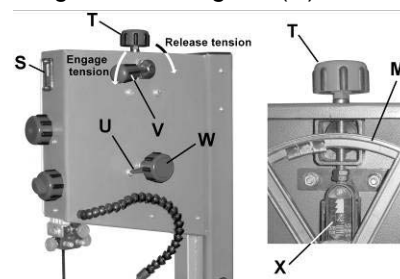

Figure 10
5. *Release tension* on the blade by moving the *tension handle* (V, Fig. 10) to the right.
10. *Engage tension* on the blade by moving the *quick tension handle* (V, Fig. 10) to the left.
Referring to Figure 10: